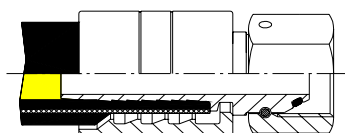

Fig.4
3. Insert the fitting's end into the hose until the fitting gets in touch with the ferrule (Fig. 4).
4. Insert the fitting's end into the hose until the fitting gets in touch with the ferrule (Fig. 4).